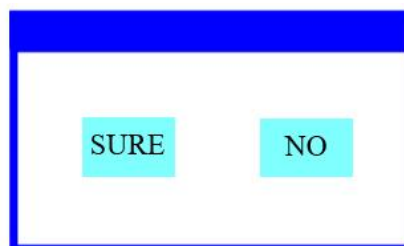

Figure 5 Dialog of confirm
- When the parameter is a key item, click corresponding item, a dialog shown in Figure 5 will be shown to ask for confirmation. Click 'sure' to confirm.